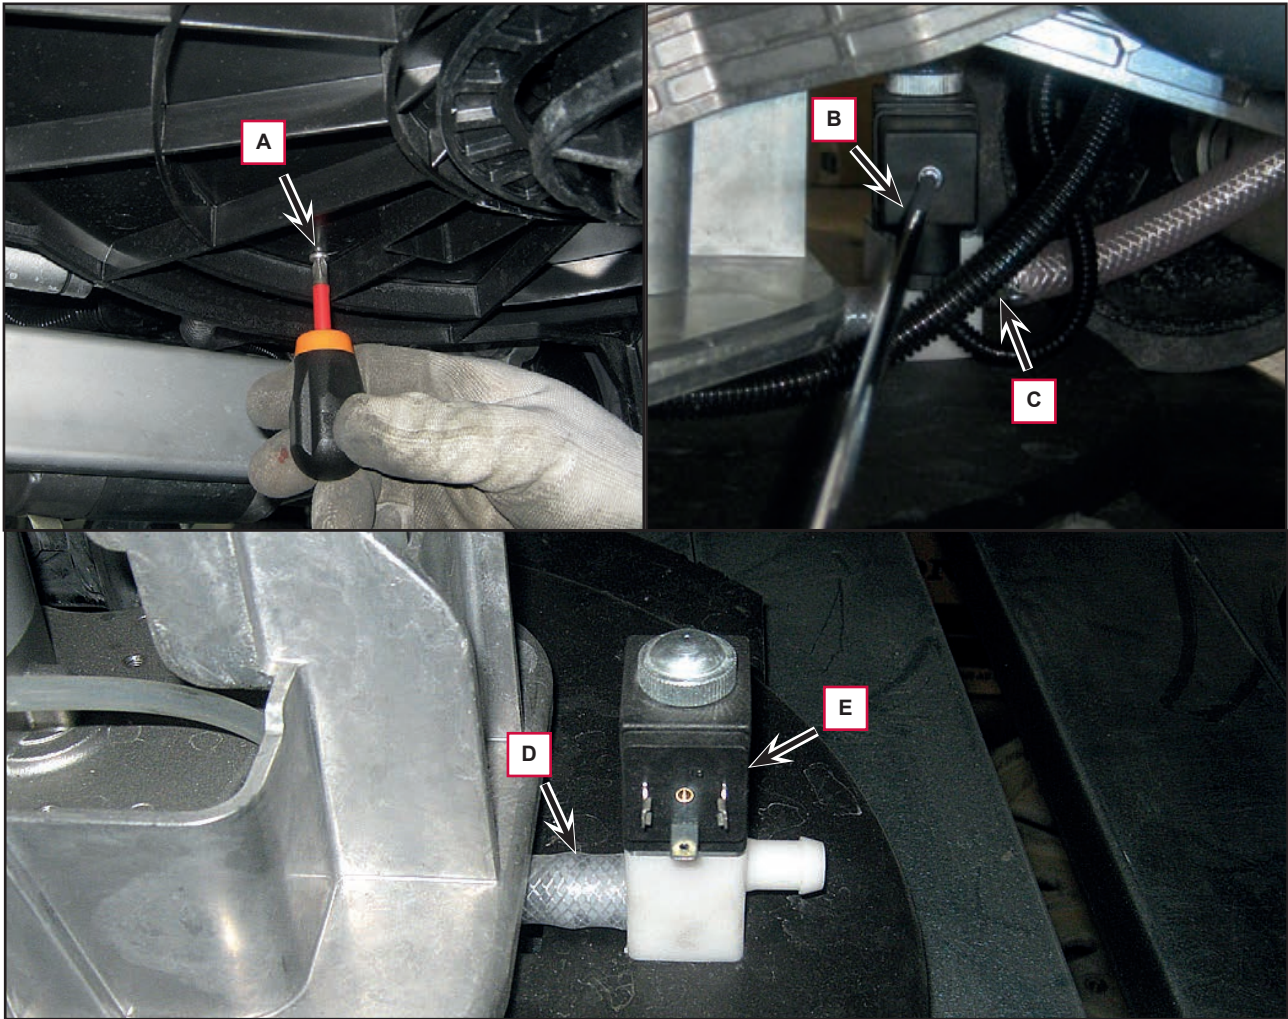

Figure 12
3. Remove the two screws (A, Figure 12) under the brush deck.